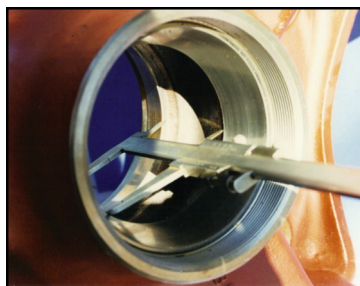

Fig 3.
Step 2. Measure the distance between the inner faces of the bearing cups. See Fig 3.